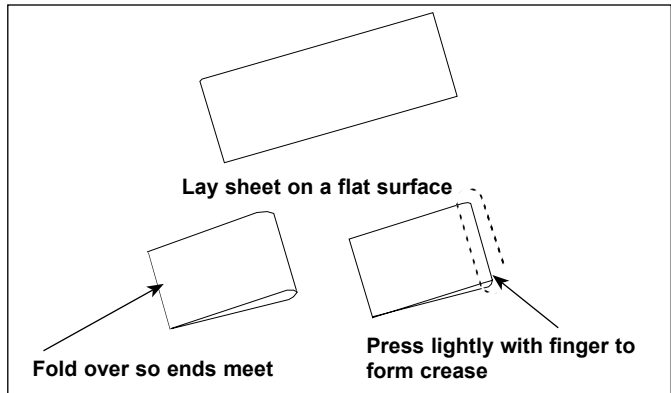

Figure 3. Folding Release Sheet
4. Remove the Release Sheet from the plastic bag and lay it on a clean, flat surface. Fold the sheet exactly in half (Figure 3).
5. Crease the sheet at the fold using only your finger (Figure 3).